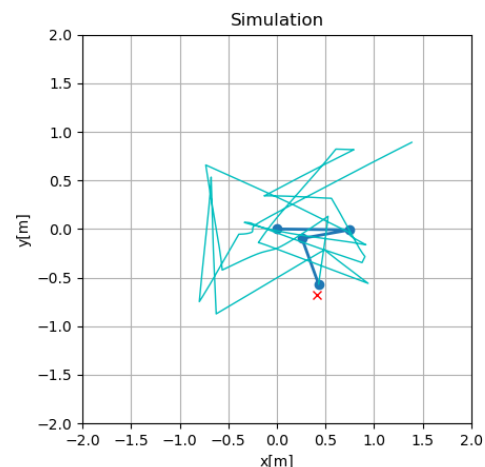

Fig. 4: Simulation for end-effector priority
- The Fig.4: shows the **end-effector trajectory** of a 3-link planar manipulator attempting to reach a target position.